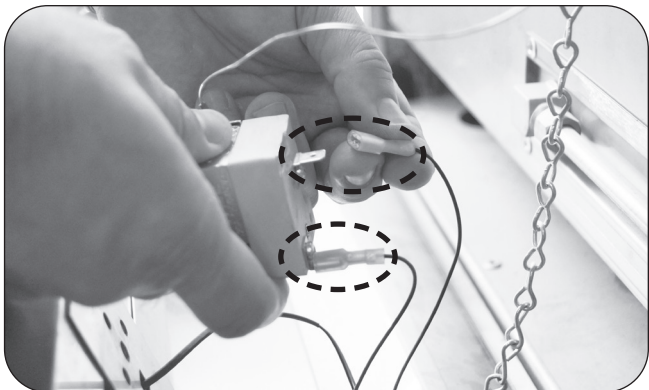

Fig. 1-2 Disconnect wires
5. Disconnect the two wires from the back of the thermostat (see Fig. 1-2).